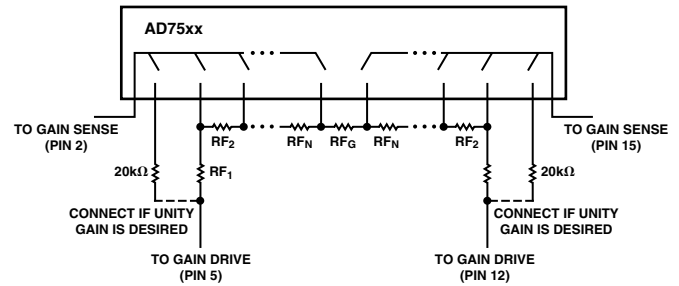

Figure 41. Resistors for a Gain Setting Network
The individual resistors in the gain network can be calculated sequentially using the formula given below. The equation determines the resistors as labeled in Figure 41. The feedback resistors and the gain setting resistors are interactive, therefore; the formula must be a series where the present term is dependent on the preceding term(s). The formula
- 1) Unity gain is treated as a separate case. It is implemented with separate 20 kΩ feedback resistors as shown in Figure 41. It is then ignored in further calculations.
- 2) Before making any calculations it is advised to draw a resistor network similar to the network in Figure 41. The network will have (2 × M) + 1 resistors, where M = number of gains. For Figure 38 M = 3 (4, 16, 64), therefore, the resistor string will have seven resistors (plus the two 20 kΩ “side” resistors for unity gain).